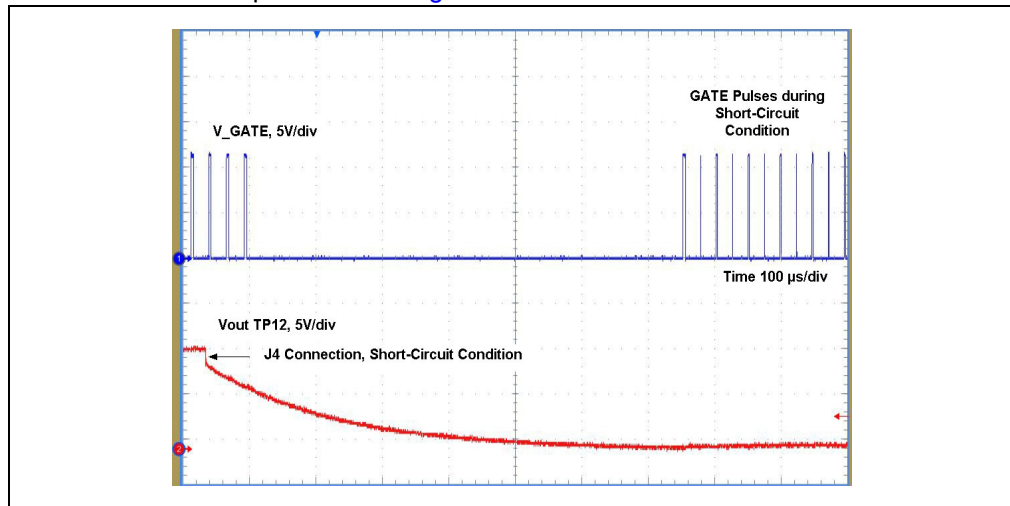

FIGURE 7-1: MCP1012 V_GATE Voltage during a Short Circuit Condition.
7. Check on the oscilloscope screen the V_GATE voltage during the short circuit condition as it is presented in Figure 7-1.